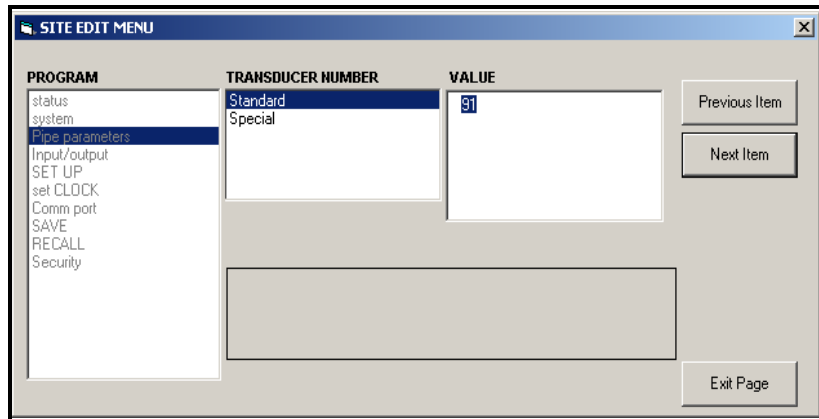

Figure F-21: The Pipe Parameters Option in the Site Edit Menu
- a. Highlight and double-click on the desired option in the left pane. Figure F-21 below shows the first entry (Transducer Number) in the Pipe parameters option. The title above the center pane lists the current entry, while the center pane displays the available selections for that entry.